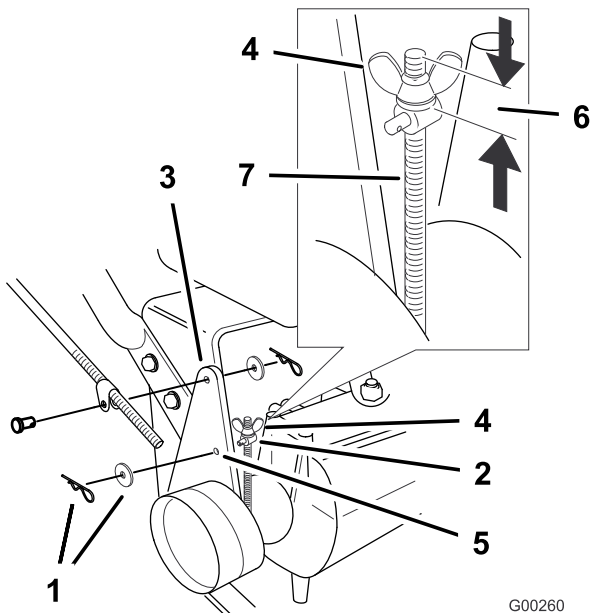

Figure 41
Note: For the initial adjustment, adjust the wing nut until it is 1-1/4 inches from the top of the rod (Figure 41).
6. To adjust the brake, remove the hair pin cotter and washer from the brake lever and trunnion (Figure 41).
9. Install the trunnion into hole F (Figure 41). Tighten the wing nut.
10. Secure trunnion to brake lever with washer and hair pin cotter (Figure 41).